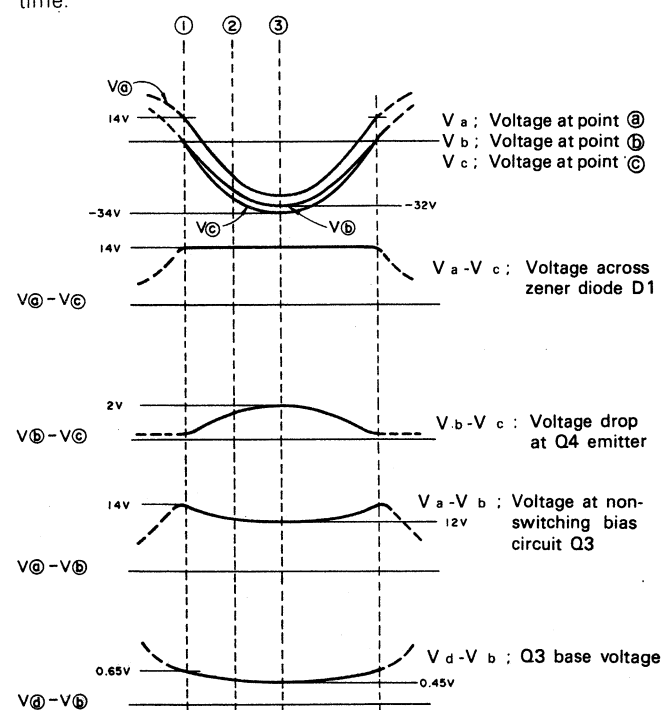

Fig. 8
At the time when the input signal voltage goes from positive to negative ① (**Fig. 8**), the driver transistor Q1 is conducting a collector current and the zener diode D1 is also in active to produce 14V at point ②. A part of the Q1's emitter current and a current from point a through the resistor are supplied to the base of the power transistor Q3 as a bias current. Then Q3's collector current will be approximately 70 mA.
The above figure shows the states of the circuit when the input signal is negative ② (**Fig. 8**) and the Q4's collector current is 2A. Since ② ampere flows through the 8-ohm resistor, the voltage at point ⑤ becomes -16V . Most of this current flows through the emitter resistor of Q4, making -17V at point ③. The voltage at point ① is higher than that of point ③ by 14V which is the zener voltage of D1, thus resulting in the point ① voltage at -3V . At this time, Q1 is cut off, and the voltage at point ④ is -15.43V which is the difference of voltages at points ① and ⑤ divided by resistors of $2.2\text{ k}\Omega$ and 100Ω .
When the signal voltage becomes larger in negative ③ (**Fig. 8**), the voltage drop across the Q4's emitter resistor increases, resulting in a reduction of Q3's V_{BE} . Thus the collector current further decreases to become about 10 mA, but the Q3 will never be cut off. The following figure shows the voltage of various points in the circuit relative to the time.